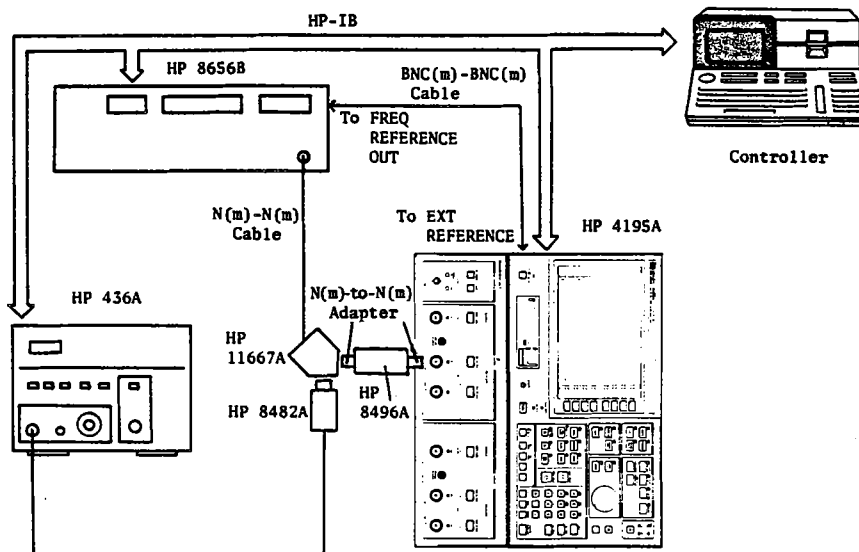

Figure 3-144. Receiver Frequency Response Calibration Setup
2. Position the HP 4195A on its right side as shown in Figure 3-144.
3. Connect the HP 4195A, Signal Generator, Power Meter, Power Sensor, Power Splitter, and Attenuator as shown in Figure 3-144.